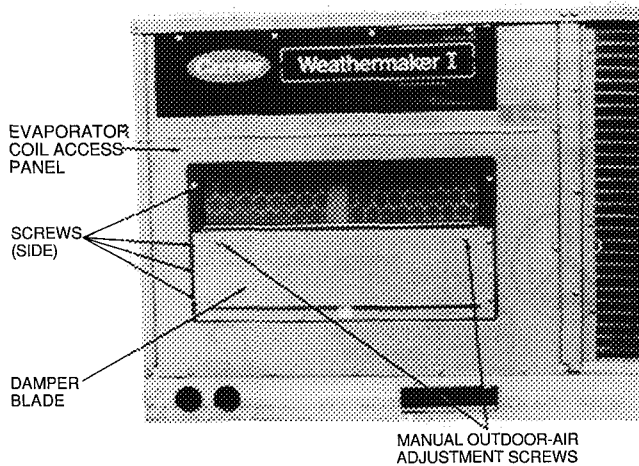
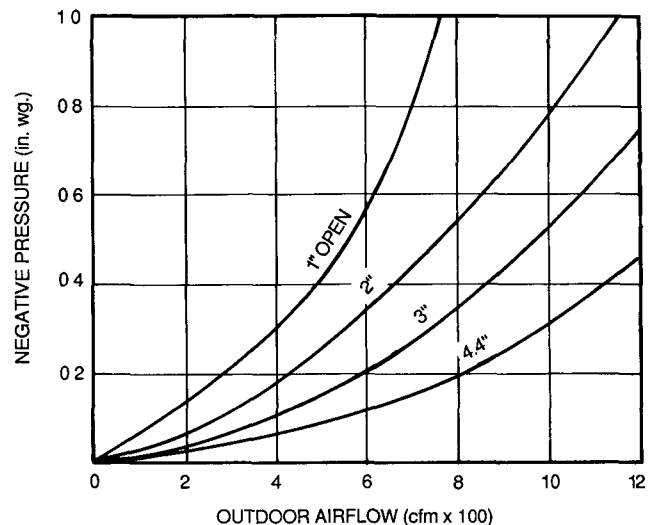
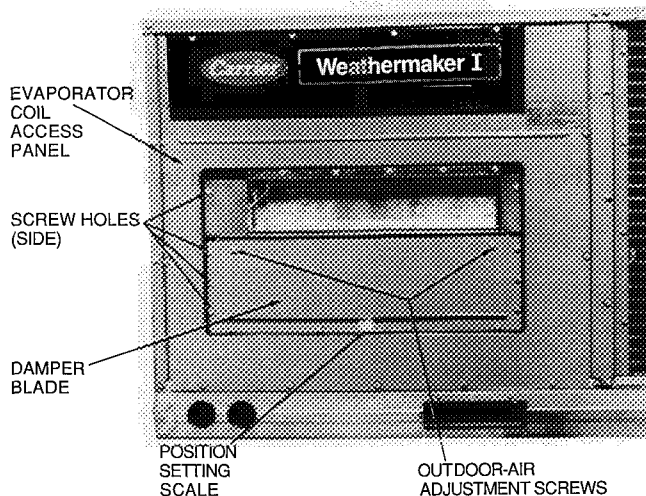

Fig. 12 – Damper Panel with Manual Outdoor-Air Damper Installed
Fig. 15 – Position Setting
Fig. 16 — Damper Panel with Two-Position Damper Installed
2. Remove and save evaporator coil access panel and screws. See Fig. 12.
8. Adjust minimum position setting of the damper blade by adjusting the manual outdoor-air adjustment screws on the front of the damper blade. See Fig. 12. Slide blade vertically until it is in the appropriate position determined by Fig. 15. Tighten screws.
2. Remove and save evaporator coil access panel and screws. See Fig. 16.
9. Determine two-position damper setting by using Fig. 15. Set the damper panel position using the air adjustment screws. See Fig. 16. Tighten screws.